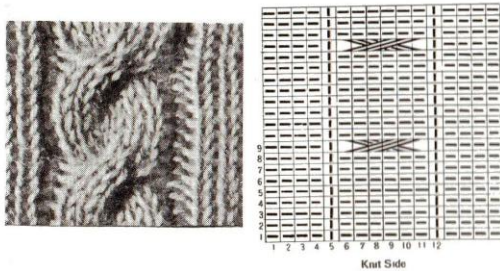

Fig. 23
- (c) Place the stitches from the first tool onto the second 3 empty needles and pull these needles forward into Position 'D' (Figs. 23 & 24)